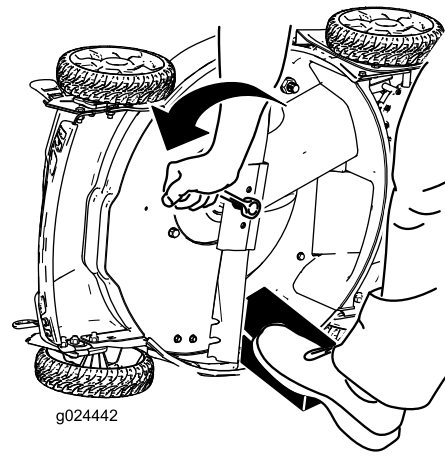

Figure 22
4. Remove the blade, saving all mounting hardware (Figure 22).
3. Use a block of wood to hold the blade steady (Figure 22).